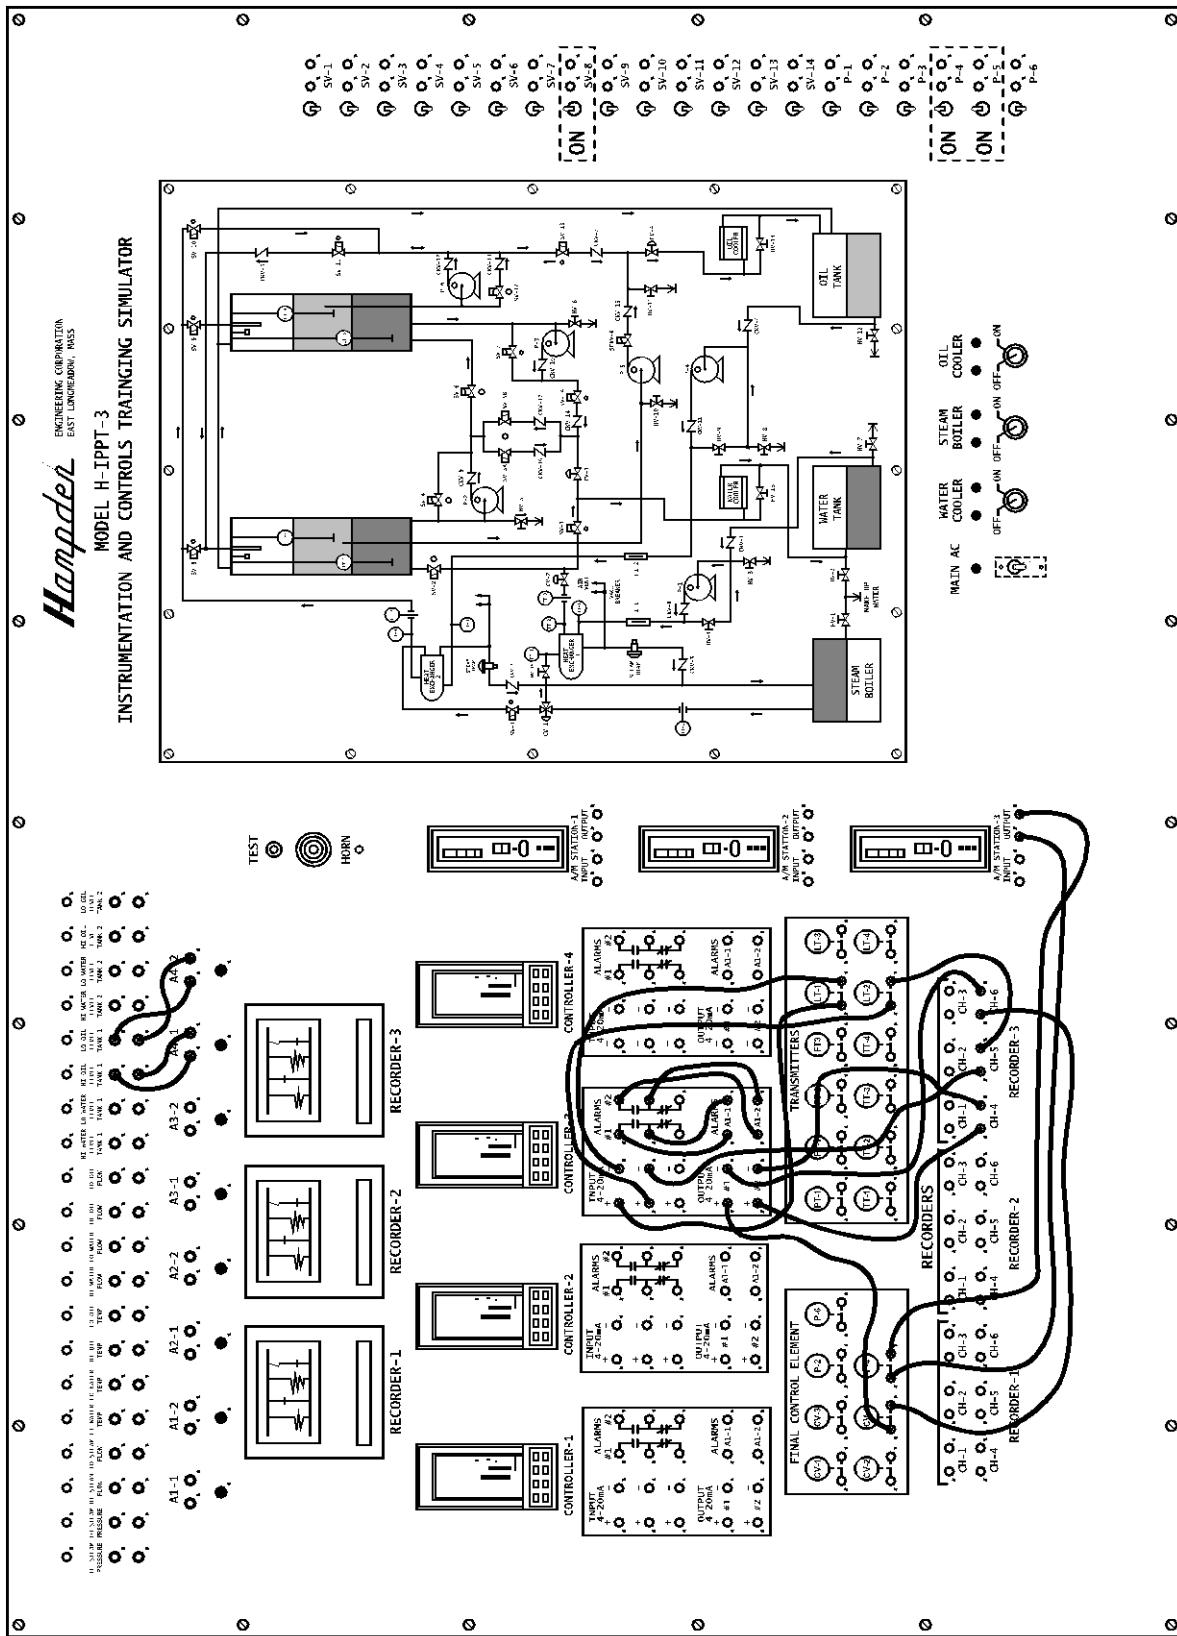

Figure 4: H-IPPT-3 Control Panel
6. Interconnect the process control equipment per Figure 4.